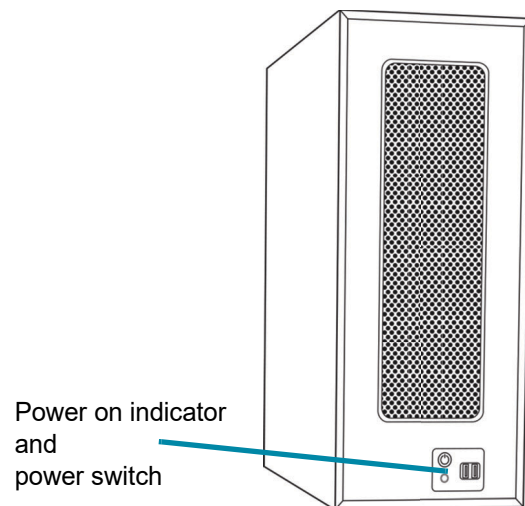

Figure 4-3 Power On the Digital Imager Computer
3. At the Digital Imager computer, turn on the power. (See Figure 4-3.)